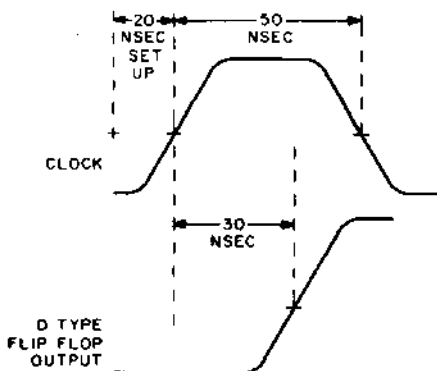

Figure 19. D Type Flip-Flop Timing
**Flip-Flop Propagation Delays:** D type flip-flops trigger on the leading edge of a positive clock pulse; the propagation delay is measured from the threshold point of this edge. The set-up time of the D flop is also measured from this threshold point. Data on the D input must be settled at least 20 nanoseconds prior to the clock transition. The advantage of the D-flip-flop, however, is that the leading edge triggering allows the flip-flop AND gates to propagate while the clock pulse is still high. Figure 19 illustrates this situation.